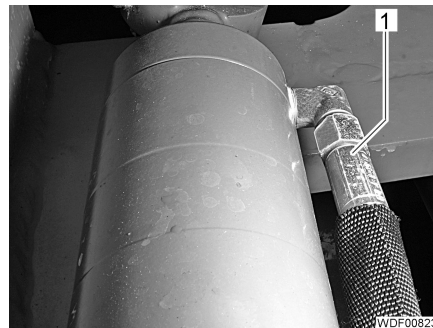

Fig. 39 Hydraulic connection, rod end
- Unscrew and close off the hydraulic line (Fig. 39,1).